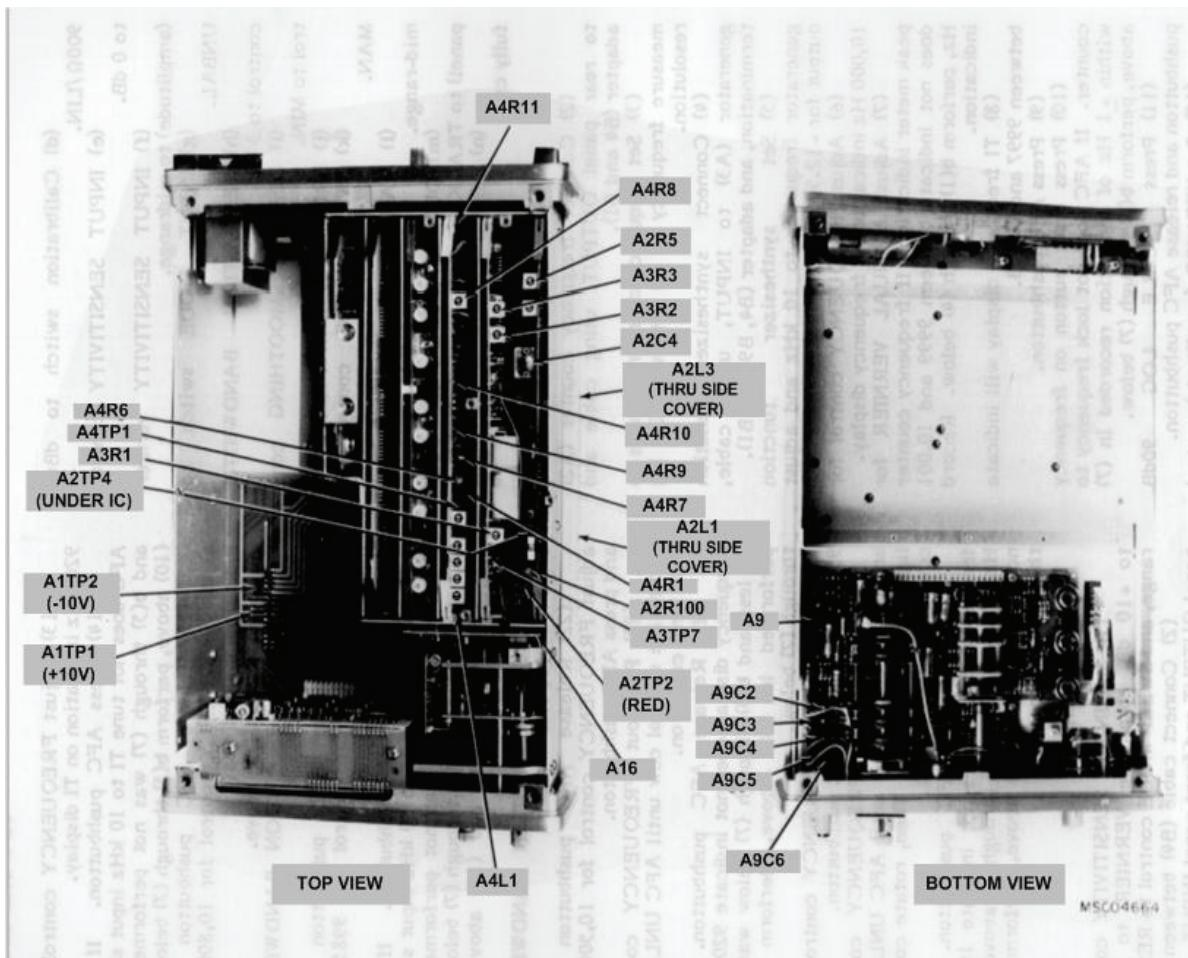

Figure 1. Adjustments.
(1) Set **INPUT SENSITIVITY** control to **+10 dB**, amplitude **VERNIER** to midrange, and **SWEEP MODE** control to **RESET**.
- (2) Connect rear panel **OUTPUT** to front panel **INPUT**.
- (3) Adjust A2C4 (fig. 1) for peak meter indication. (R)
- (4) Disconnect cable connected in (2) above.
- (5) Set **INPUT SENSITIVITY** and **VERNIER** controls to **CAL**, **RESOLUTION** **BANDWIDTH** control to **10 Hz**, and **SWEEP MODE** control to **OFF**.
- (6) Adjust **FREQUENCY** control for exactly 10,000 Hz indication on TI display. Press **AFC** pushbutton.
- (7) Connect multimeter to A3TP7 (fig. 1) and chassis ground and adjust A3R1 (fig. 1) for multimeter indication of 0 ± 0.5 V dc. (R)
- (1) Set **RESOLUTION BANDWIDTH** control to **300 Hz**, **FREQ SPAN** control to **0 Hz**, **SWEEP MODE** control to **RESET**, and **MANUAL VERNIER** control fully ccw.
- (2) Remove card nest cover to gain access to board A2.
- (3) Short red lead at A2TP2 (RED) (fig. 1) to chassis ground.
- (4) Adjust A2L3 (fig. 1) for 0 to 5 Hz indication on TI display. Remove short from A2TP2 (RED). (R)
- (5) Adjust **FREQUENCY** control for 10 Hz indication on TI display.
- (6) Set **FREQ SPAN** control to **50 kHz** and adjust A3R2 (fig. 1) for 10 Hz indication on TI display. (R)
- (7) Set **SWEEP MODE** control to **MAN** and **MANUAL VERNIER** control fully ccw.
- (8) Adjust **FREQUENCY** control for 0 Hz indication on TI display.
- (9) Connect multimeter to A2TP4 (fig. 1) and adjust A2L1 (fig. 1) for multimeter indication between -1.49 and -1.51 V dc. (R)
- (10) Position **MANUAL VERNIER** control fully cw.
- (11) Adjust **FREQUENCY** control for 50,000 Hz indication on TI display.
- (12) Adjust A2R100 (fig. 1) for -1.5 V indication on multimeter. (R)